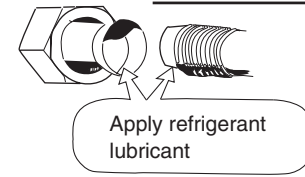

Fig. 1-17
- (1) Apply a sealing cap or water-proof tape to prevent dust or water from entering the tubes before they are used.
- (2) Be sure to apply refrigerant lubricant to the matching surfaces of the flare and union before connecting them together. This is effective for reducing gas leaks. (Fig. 1-17)